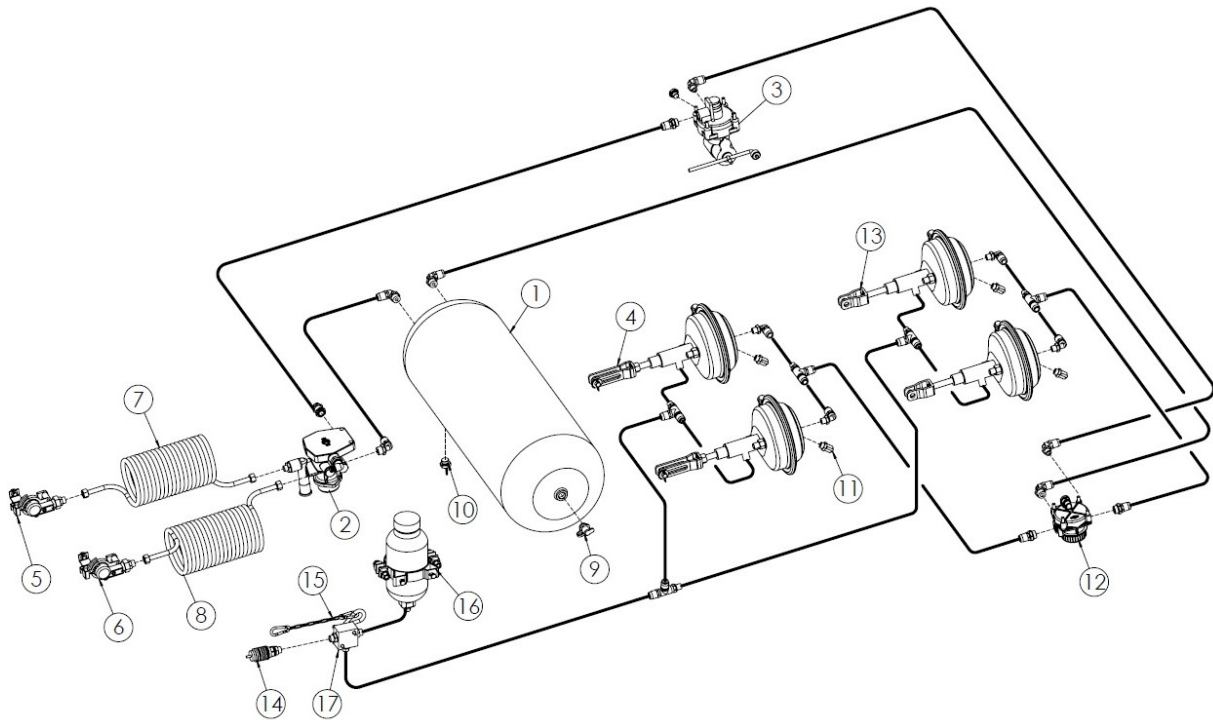

Figure 13 The Hydraulic pneumatic braking system with ALB
- pneumatic hydraulic braking system with ALB valve (Figure 13)
Another option for the braking system is the hydraulic pneumatic braking system with ALB - Figure 13. This system is a combination of hydraulic and pneumatic 2-line braking with the ALB (manual brake-force control). Whether you can connect the hydraulic or pneumatic braking system depends on the type of trailer brakes the tractor is equipped with.